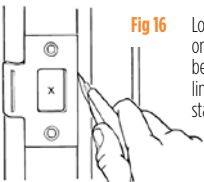

Fig 16 Locate strike plate on door jamb between these lines. Score with stanley knife.
- Locate the strike plate on the door jamb between the lines for top and bottom (see Fig 16). Once you're satisfied that the position is correct, score the outline of the strike plate onto the door jamb using a Stanley Knife, or similar sharp blade.